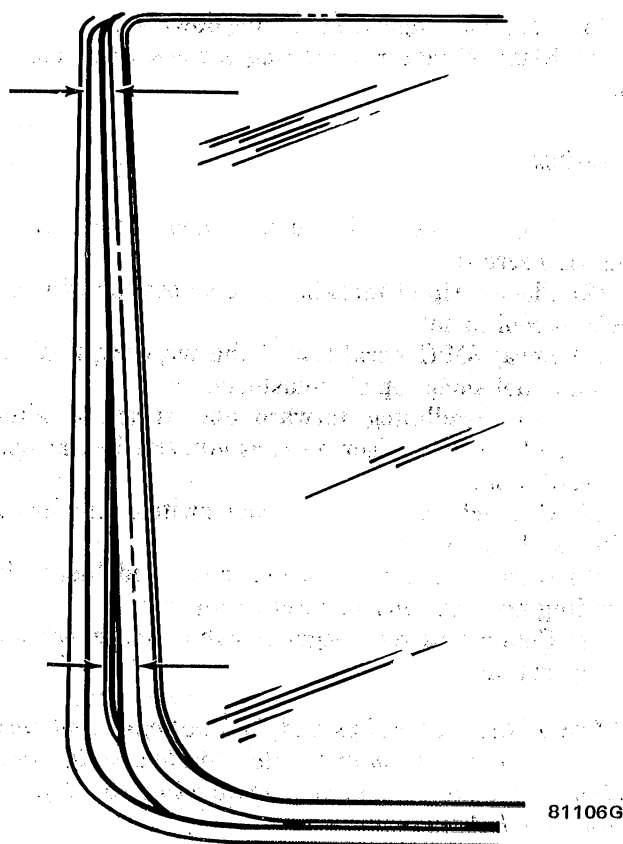

Fig. 3L-16 Glass Panel Parallel Alignment
(1) Open glass panel approximately 1/4 to 1/2 inch.
(2) Determine how much forward edge of glass panel is out of parallel with forward edge of opening in roof panel and note variation.
(3) Open panel approximately 8 inches to gain access to cable and drive gear mechanism.
(4) Remove cable front cover and drive gear plate.
(5) Remove one cable from track.
(6) Move one side of glass panel slightly fore or aft as required to obtain parallel alignment with forward edge of roof panel opening (fig. 3L-16).